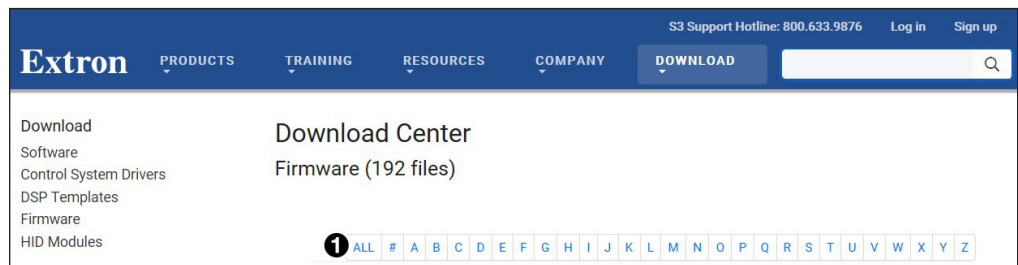

Figure 18. Firmware Page with Alphabetic Navigation Bar
2. Click **Firmware** in the drop-down menu (❷). The Download Center page opens.
3. Click the letter **D** from the alphabetic navigation bar for the DA4 12G HD-SDI device (see figure 18, ❶).